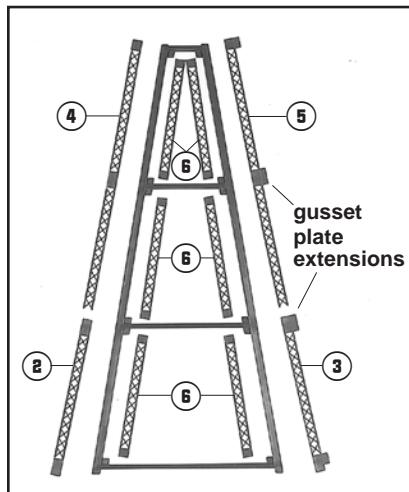
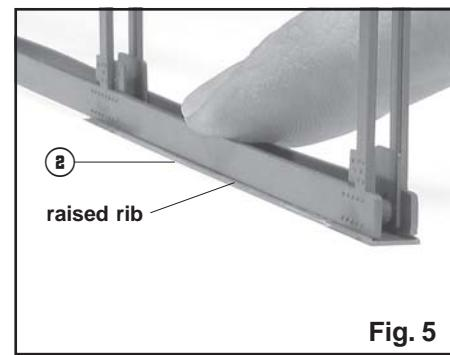

Fig. 4 Bent lattice
Fig. 5
2. Trim the gusset plate extensions off parts (2), (3), (4), and (5).
Note in Fig. 4 that parts (2) and (4) are shown after their gusset plate extensions were trimmed off and parts
(3), and (5) are shown before the extensions were trimmed off. Place the parts on the work surface with their rivet sides down. With a razor knife, trim off the two gusset plate extensions, cutting along the outside edge of the raised rib.
3. Cement the **outside bent lattice**, parts (2), (3), (4), and (5) to the bent assembly. Figure 4 shows their general position. (For clarity, the parts are shown flat in figure 4, they would actually be on edge if cemented to the bent halves.)
Note that all bent lattice parts have a raised rib along each edge on one face. To assemble the outside bent lattice, lay part (2) flat on the work surface with the rib side up. Place the bent assembly on edge on top of part (2) so the ribs are on the outside of each bent half. See fig. 5. Cement in place, one edge at a time, while holding the bent half against the rib. Be sure the end of part (2) is flush with the end of the bent. Repeat with parts (3), (4), and (5).
4. Trim the excess plastic from the gusset plates of parts (6), (7), (8), and (9) but not (10). Important: See **III. Notes** on page 1.
5. Cement the **inside bent lattice** parts (6) to the bent assembly. Figure 4 shows their general position.